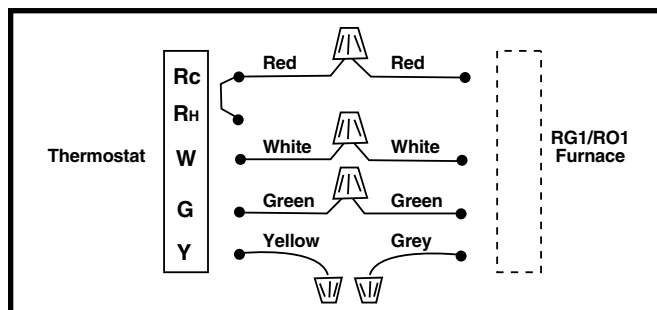

Figure 25. Thermostat Wiring For A/C Ready Models
Proper line voltage polarity must be maintained in order for the control system to operate correctly. Verify the incoming neutral line is connected to the white wire and the incoming "hot" line is connected to the black wire. The furnace will not operate unless the polarity and ground are properly connected as shown in Figure 25 \(page 15\).
- Connect the thermostat wires to the furnace low voltage pigtails. See Figure 25.